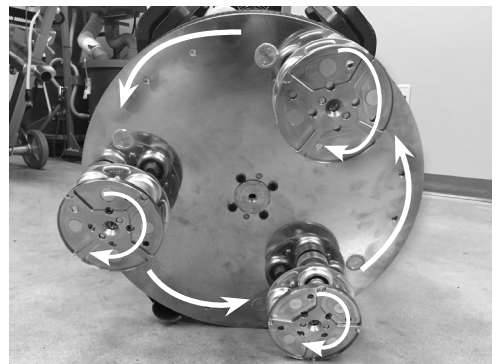

FIG. 7
- With the grinder switch in "reverse," the tooling should turn clockwise and the drum should turn opposite (Figure 7).